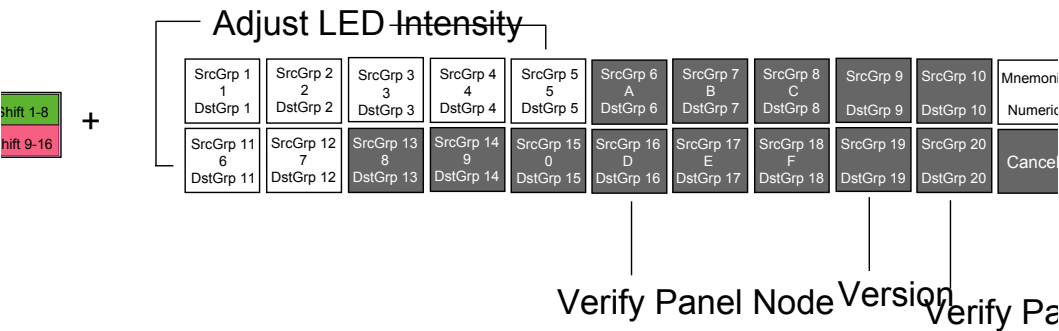

Figure 7-25. Keypad Buttons used for Miscellaneous Panel Modes
2. While holding, press one of the first seven keypad buttons, as shown in Figure 7-25. Button **1** is the brightest setting; button **7** is the dimmest setting.
2. While holding, press keypad button **D** as shown in Figure 7-25. (This button may also be labeled as the **Group 19** button.) In the **Destination Display**, the panel's node address appears.
2. While holding, press the keypad **Group 20** button as shown in Figure 7-25. In the first three **Source Displays**, the panel's ID appears.
2. While holding, press the keypad **Group 15** button, as shown in Figure 7-25. In the **Destination Display**, the panel's software version appears.